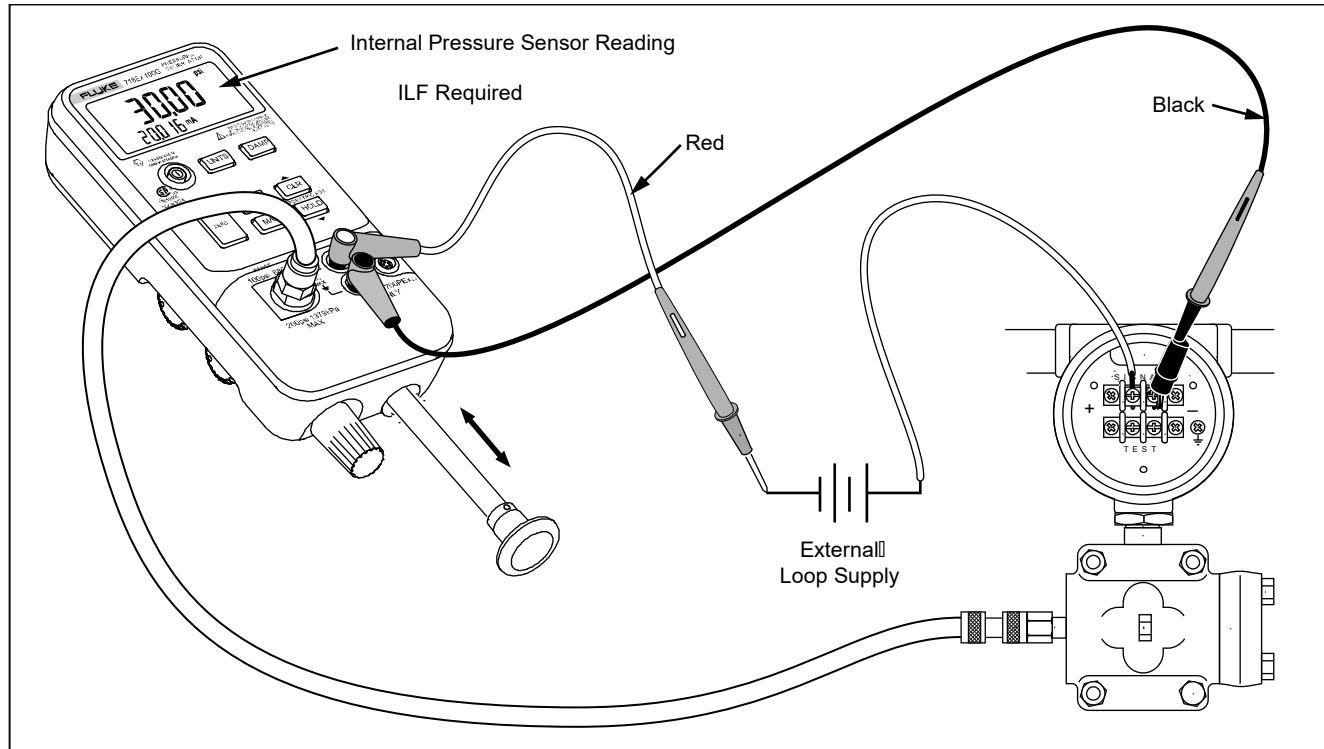
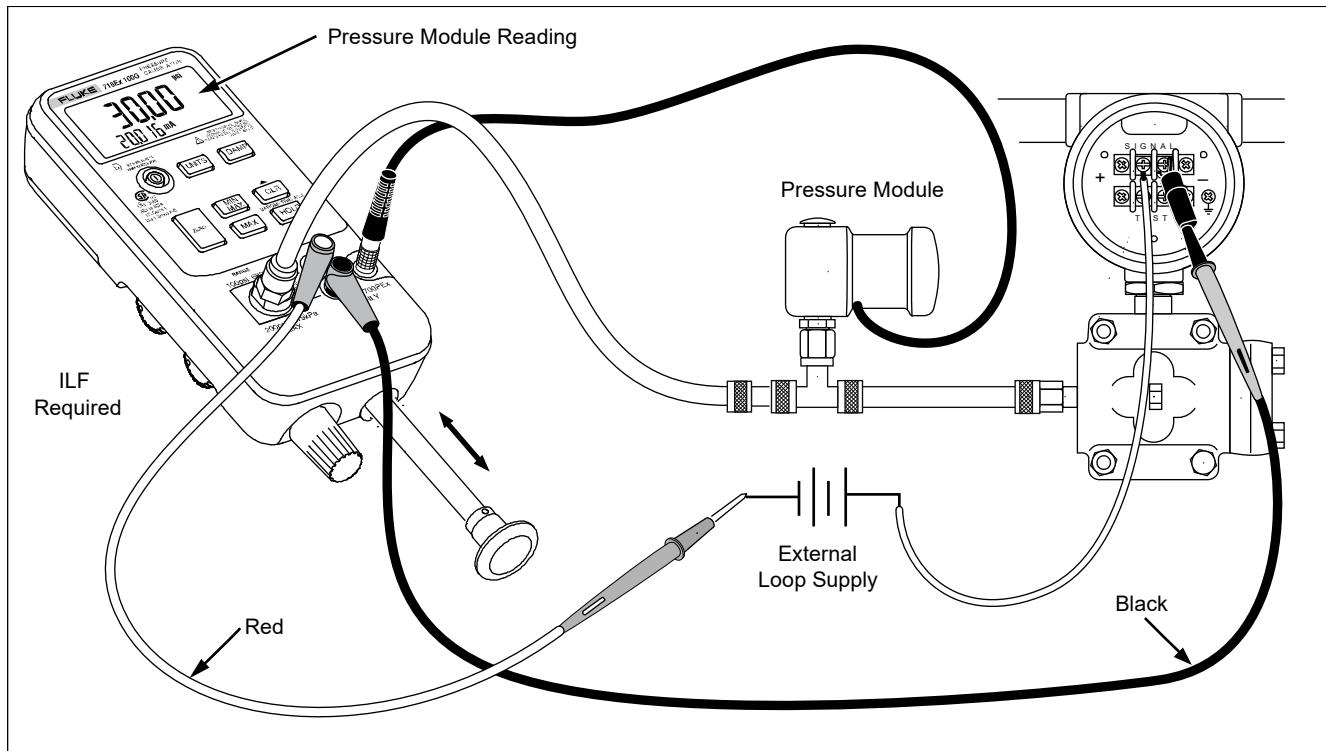

Figure 4. Internal Pressure Sensor with Internal Pump
Figure 5. Pressure Module with Internal Pump
The preferred use for the internal pump is shown in Figure 4, where the Calibrator displays pressure measured with the internal sensor and provided by the internal pump.
The internal pump can also be used with certain Fluke 750PEx Series Pressure Modules. In this case, pressure measured by the pressure module is displayed by the Calibrator. Appropriate pressure modules for each Calibrator model are identified in Table 4. Figure 4 shows the internal pump being used with a pressure module.
To use the Calibrator's internal pump, refer to Figure 4 and perform the following steps:
2. Connect the pressure transmitter under test to the Calibrator internal sensor as shown in Figure 4 (for internal pressure sensor measurements) or Figure 5 (for pressure module measurements.)